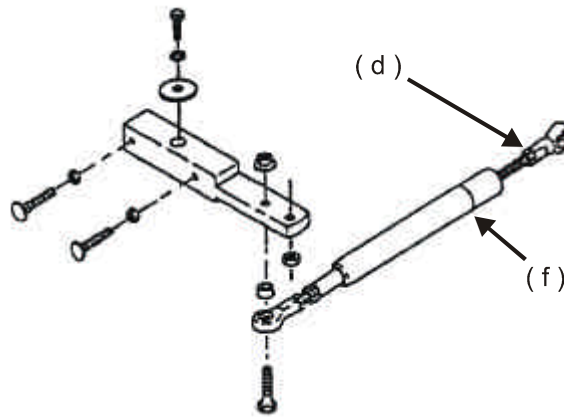

FIGURE 8
- d) The Neutral Centering Device is located on the right-hand underside of the engine deck. Loosen jam nut (d) from the ball joint which connects the override assembly (f), to the engine deck anchor mounting (See Figure 8).